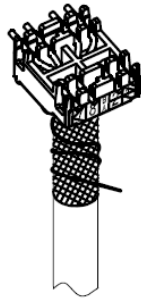

Fig. 9
- 2) Lay the wires to their correct positions based on the color code (TIA568A/TIA568B) (Fig.9)